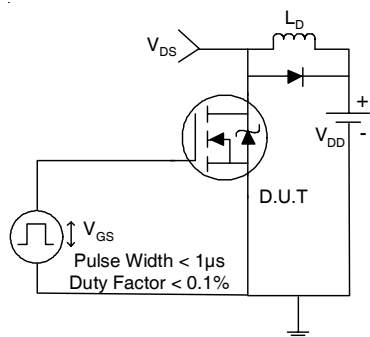

Fig 17a. Switching Time Test Circuit
3. Equation below based on circuit and waveforms shown in Figures 17a, 17b.